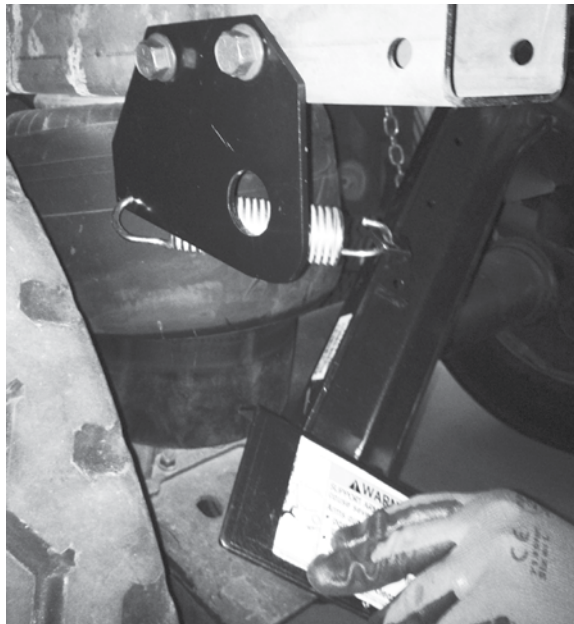

Figure 11: Arm raised above rail for spring installation
3. Lift roadside end of the support arm assembly, with attached spring, to roadside bracket and insert the other end of spring into spring hole of the roadside bracket (Figure 11).
NOTE: To gain access and attach the spring in Step 3, the top of the roadside arm on the support arm assembly (Figure 11) must be raised up above the slider rail.